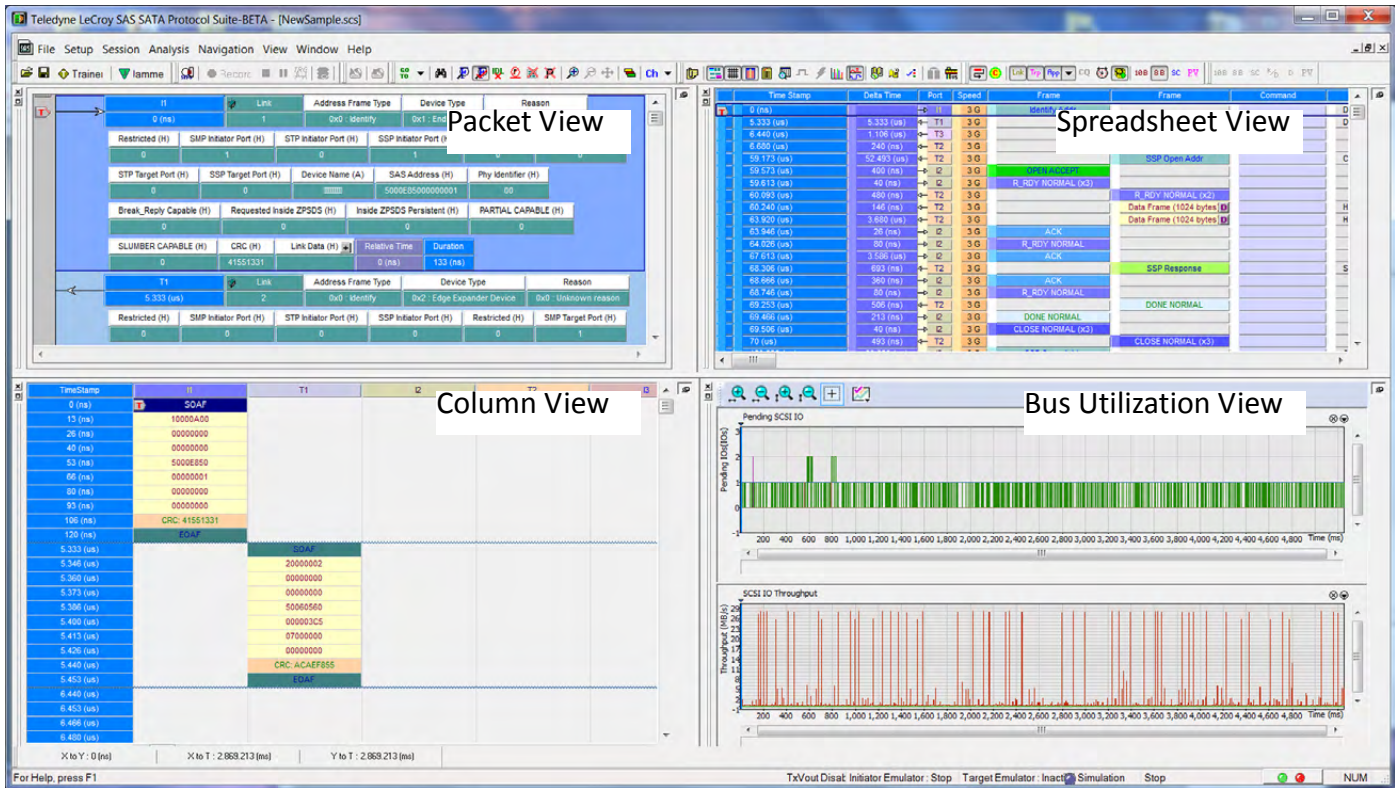

Figure 3.23: Default Workspace Contains Four Views (Trace = NewSample.scs)
4. If you Save the Workspace with four views as the Default, the next Trace you open will have all the views you want to see. See Figure 3.23.